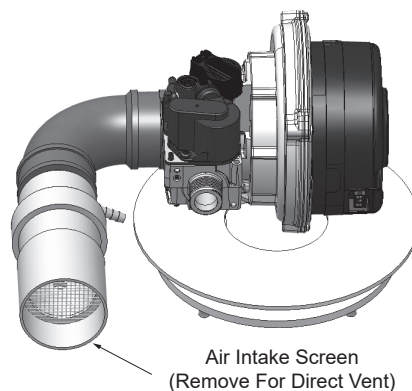

Figure 17. Blower Air Inlet Assembly
3. Horizontal Direct Vent - using Through-the-Wall Termination to exhaust flue products and piping to bring combustion air to the water heater from the outside. See **Figure 17** (page 27) and **Figure 27** (page 32) and **Figure 28** (page 32).
Note: When the unit is to be set up as a direct vent, the air intake screen must be removed. The air intake pipe may then be glued to the air intake provided on the unit. See **Figure 17**.